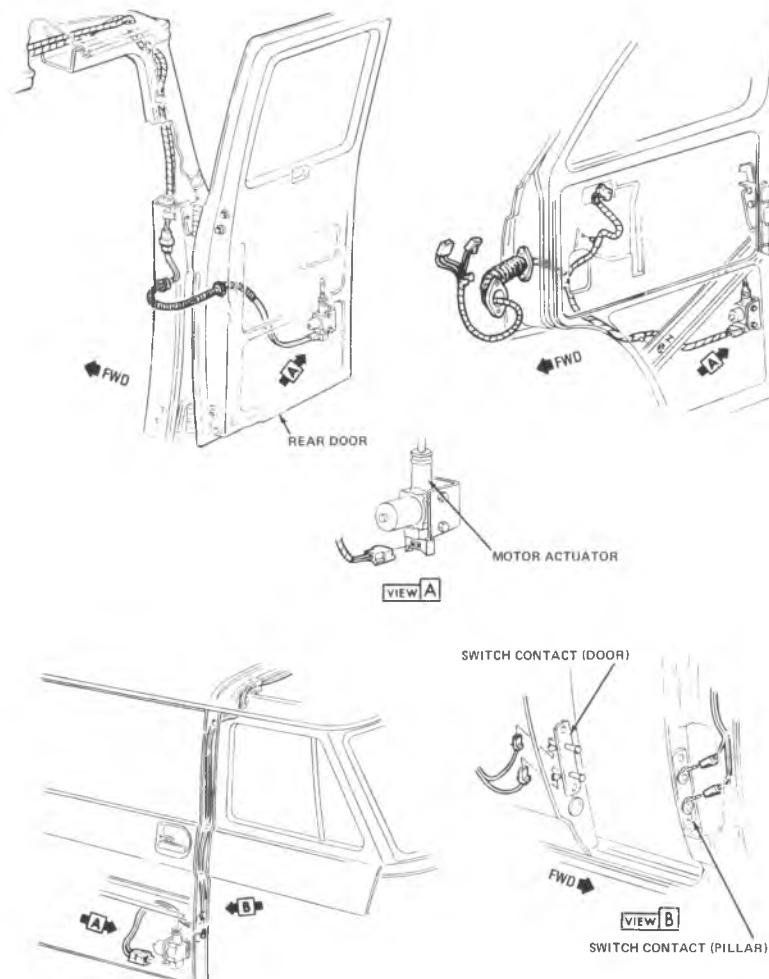

Fig. 2D-116--Power Door Lock Actuators
The side door can be adjusted for alignment and/or clearance in the body opening and for proper latching. When properly positioned in the body opening, the door should have equal clearances around its perimeter. Adjustments for door positioning and proper latching can be made at the locations shown in figure 2D-117.
Up and down adjustments are provided by means of slotted holes located at the upper front roller, view B of figure 2D-117; at the lower front catch-and-roller, view D; and at the upper rear hinge-and-roller assembly, view A. To reposition the door up or down:
2. Remove upper rear hinge cover, shown in figure 2D-118.